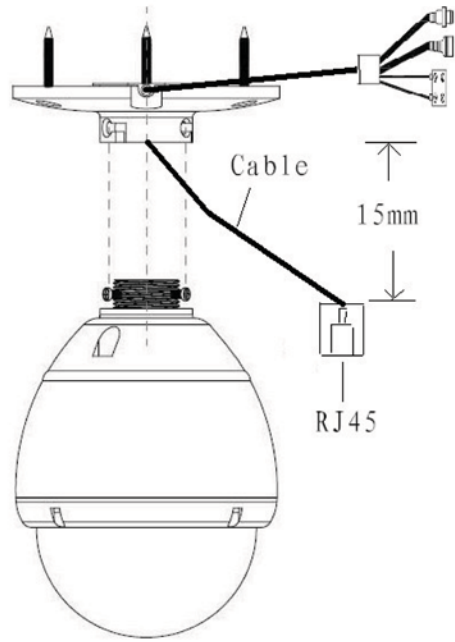
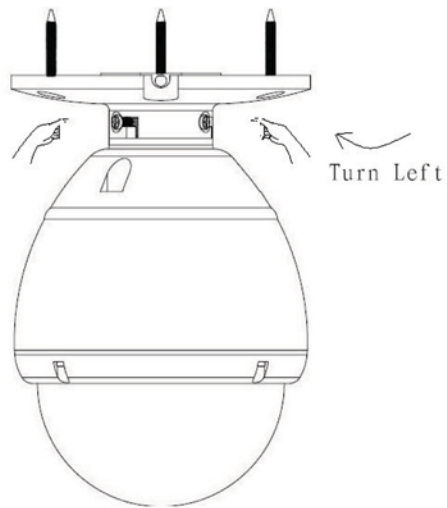

Fig.3
Fig.4
- (3) Let the RJ45 left about 15mm from the Speeddome mounting base. (Fig.3)
- (4) Mount the Speeddome mounting base with three screws (4*35 type) on the ceiling.
- (5) Connect the RJ45 with the bottom of the speed dome.
- (6) Put the waterproof film into the bottom of the speed dome closely.
- (7) Put the thread connector into the Speeddome mounting base and then turn left,lock the screws of the thread connector to connect the Speeddome mounting base closely (Fig.4).